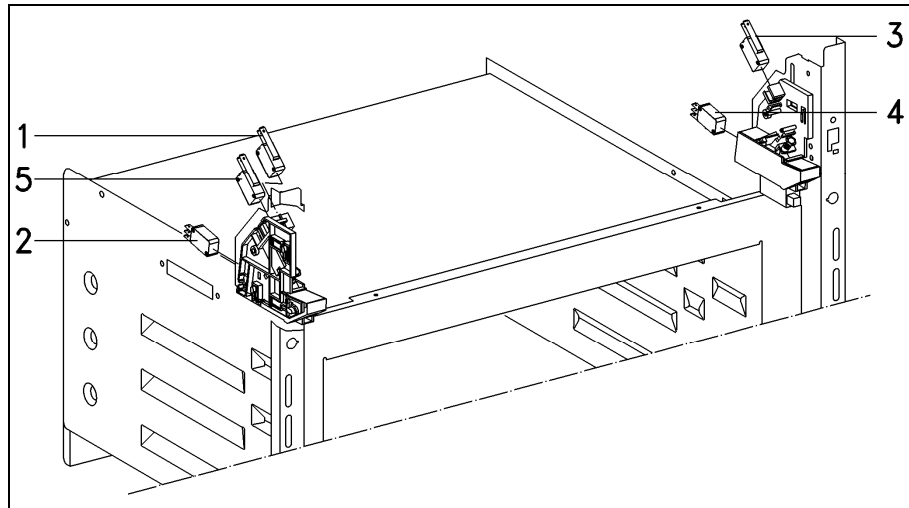

Figure 011-8: Door Safety Switches
Two door locks are located behind the control panel, at the left and right, with a total of five safety switches. Each door lock is equipped with a standard safety switch - 1F6/6 (left) (Figure 011-8, Item 1) and 3F6/6 (right) (Figure 011-8, Item 3) - and switched behind it a monitor switch, 2F6/6 (left) (Figure 011-8, Item 2) and 4F6/6 (right) (Figure 011-8, Item 4). Two contact pins at the upper edge activate the switches.
An additional door safety switch (5F6/6) (Figure 011-8, Item 5) is located on the left door lock and provides the electronic with the status of the position of the front door. This switch can be tested in service mode.
8. Pull the connectors off safety switches 1F6/6 and 3F6/6 (refer to Figure 011-8, Items 1 and 3).
11. Test the continuity of left safety switch 1F6/6 (Figure 011-8, Item 1) using an ohmmeter. If the ohmmeter beeps, then the switch is closed.